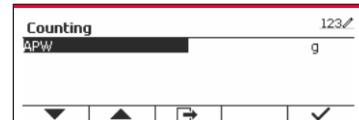

Figure 43
- Alternatively, first press the softkey corresponding to the  icon to enter the submenu for setting the APW. (See Figure 43)